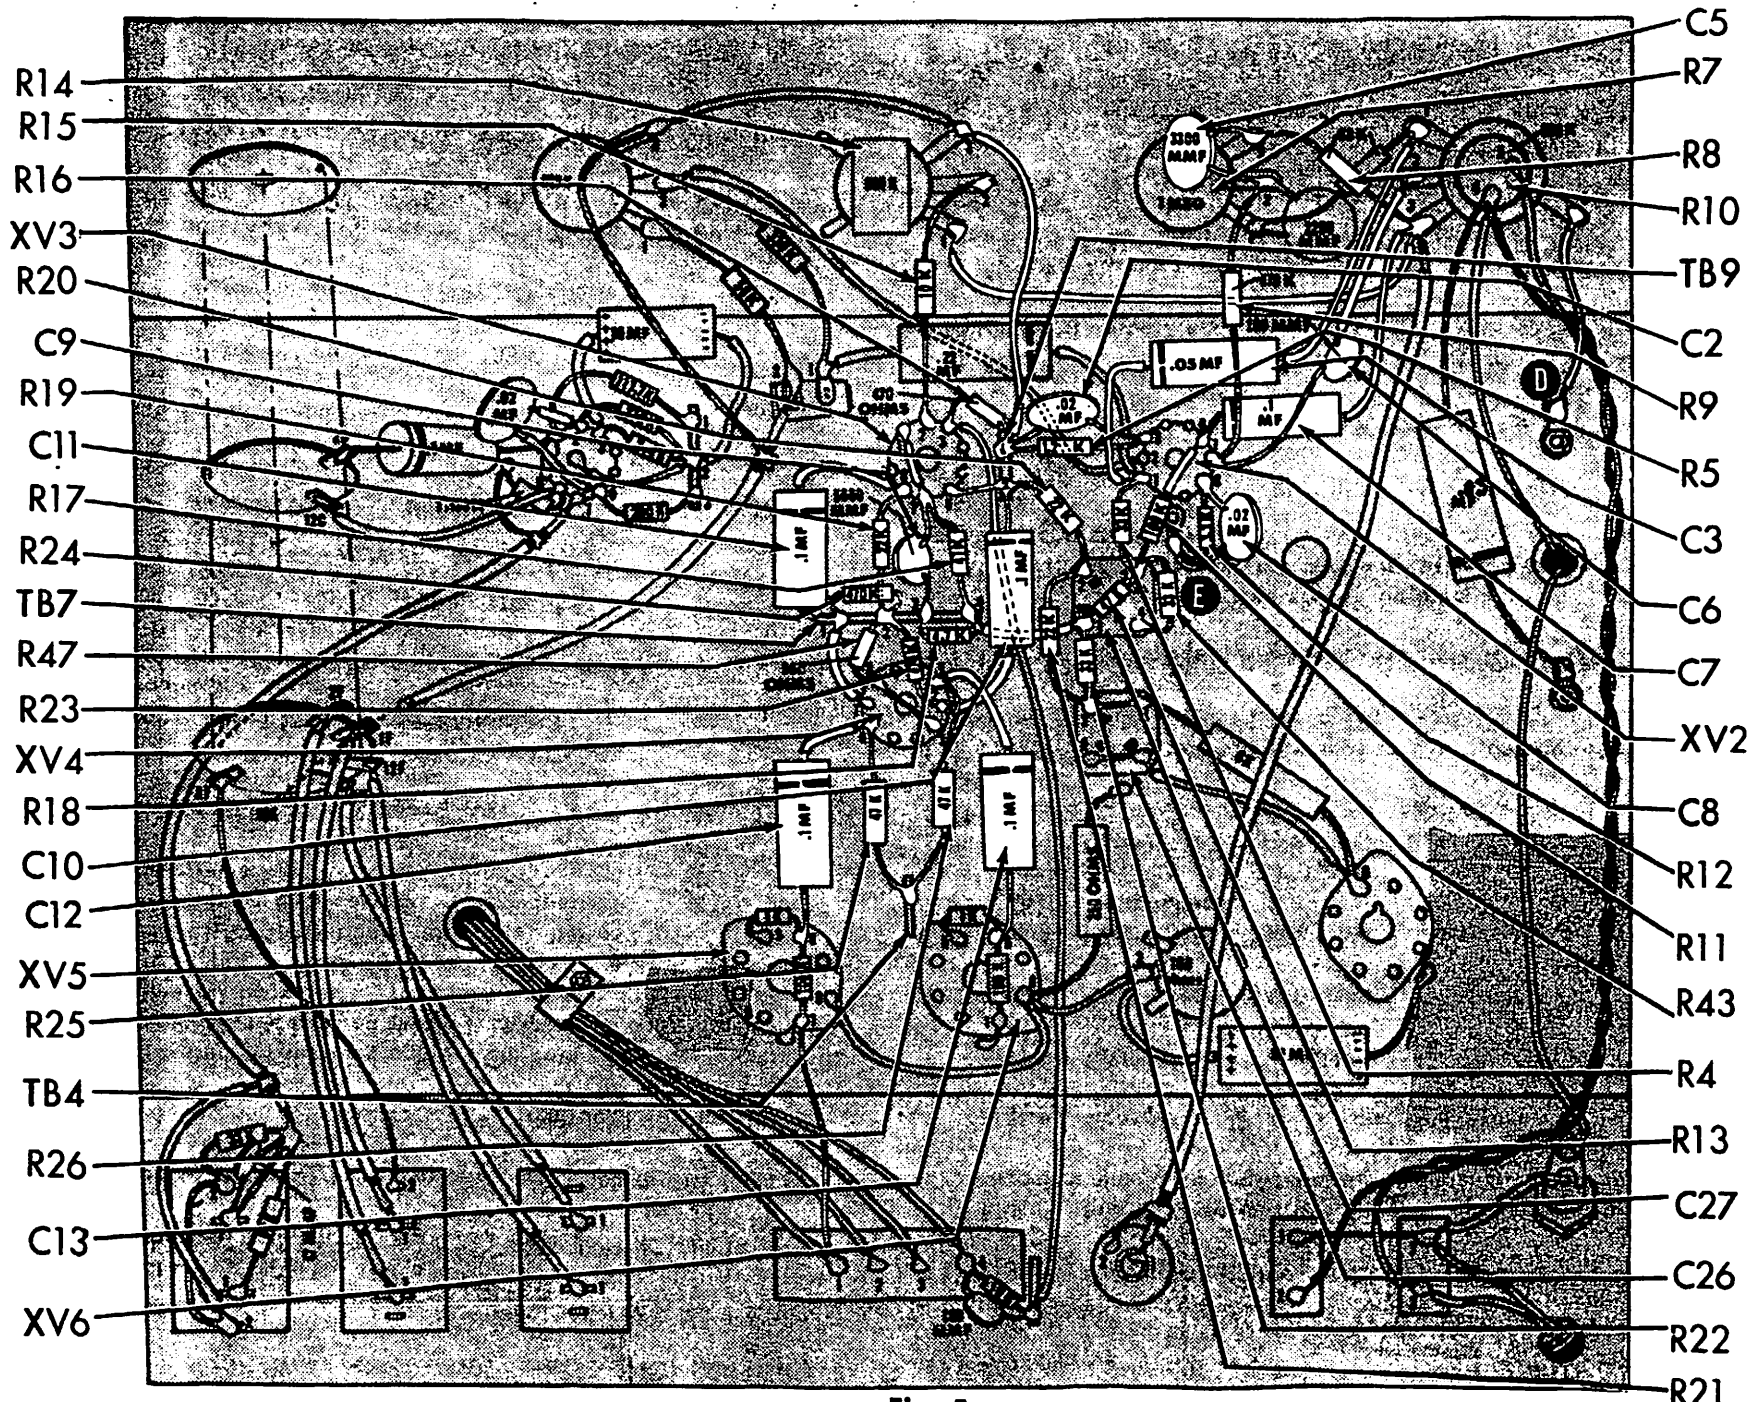

Fig. 5
() Fig. 5. Connect a 68K 5% resistor, R8, from R7-3 (C) to R10-3 (C). Use spaghetti on both ends.
() Fig. 5. Connect a 3300mmf capacitor, C5, from R7-2 (C) to R7-3 (S).
() Fig. 5. Connect an 8" blue lead from R10-3 (C) to R14-1 (S). Run the lead in the bend of the chassis.
() Fig. 5. Connect a .1 mfd 20% capacitor, C7, from R10-3 (C) to XV2-6 (C). The capacitor should be dressed into the bend of the chassis. Use spaghetti on both ends.
() Fig. 5. Connect a .05mfd capacitor, C3, from R10-1 (S) to XV2-1 (C). The capacitor should be placed above C7 at the front of the chassis. Use spaghetti on both ends.
() Fig. 5. Connect a 470K 5% resistor, R9, from XV2-7 (C) to R7-2 (S).
() Fig. 5. Connect a 100mmf capacitor, C6, from R10-2 (S) to XV2-7 (S).
() Fig. 5. Connect a piece of bare wire from R10-6 (S) to ground lug "D" (S).
() Fig. 5. Connect a .02mfd GMV capacitor, C8, and a 3.3K resistor, R12, from XV2-8 (S) to ground lug "E" (S).
() Fig. 5. Connect a 100K 10% resistor, R11, from C27-3 (C) to XV2-6 (S).
() Fig. 5. Connect a 33K 1/2W 10% resistor, R4, from C27-3 (C) to XV2-1 (S). Solder mounting lugs of C27 and C26 to chassis.
() Fig. 5. Connect a 1.2K resistor, R5, and a .02 mfd 20% capacitor, C2, from XV2-3 (S) to TB9-1 (C).
() Fig. 5. Connect a 3" black lead from R14-3 (S) to TB9-1 (C).
() Fig. 5. Connect a 10K resistor, R15, from R14-2 (S) to XV3-2 (S).
() Fig. 5. Connect a 470Ω resistor, R16, from XV3-3 (S) to TB9-1 (S).
() Fig. 5. Connect one of the two matched 22K resistors, R20, from TB9-2 (C) to C27-2 (C). Connect the other 22K resistor of the matched pair, R19, from XV3-8 (C) to TB7-2 (C).
() Fig. 5. Connect a bare wire from XV3-6 (S) to TB9-2 (C).
() Fig. 5. Connect one end of a 47K resistor, R17, to TB7-4 (C). Pass the other end through XV3-7 (C) and connect to XV3-1 (S).
() Fig. 5. Connect a 4.7K resistor, R18, from TB7-4 (C) to TB7-3 (C).
() Fig. 5. Connect a 5000mmf 20% capacitor, C9, from TB7-3 (S) to XV3-7 (S).
() Fig. 5. Connect a 2" blue lead from C27-1 (C) to TB7-4 (S).
() Fig. 5. Connect a 33K 1/2W resistor, R43, from C27-4 (S) to C27-3 (C).
() Fig. 5. Connect a 47K resistor, R13, from C27-1 (C) to C27-3 (S).
() Fig. 5. Connect a 22K resistor, R21, from C26-3 (C) to C27-2 (S).
() Fig. 5. Connect a 33K 1W resistor, R22, from C26-3 (S) to C27-1 (S).
() Fig. 5. Connect a .1 mfd 10% capacitor, C10, from TB9-2 (S) to XV4-2 (C).
() Fig. 5. Connect a .1 mfd 10% capacitor, C11, from XV3-8 (S) to TB7-1 (C).
() Fig. 5. Connect a bare lead with spaghetti from TB7-1 (C) to XV4-7 (S).
() Fig. 5. Connect a 470K resistor, R24, from TB7-1 (S) to TB7-2 (C).
() Fig. 5. Connect one end of a 560Ω resistor, R47, to TB7-2 (C). Pass the other end thru XV4-8 (S) and connect to XV4-3 (S).